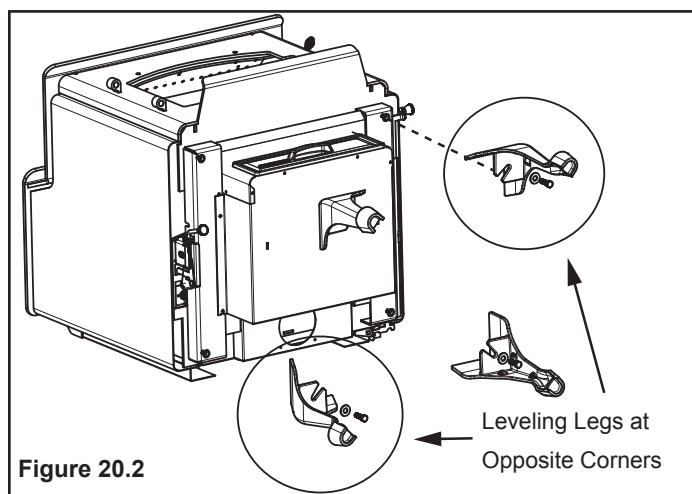

Figure 20.2
- Install legs onto mounting brackets making sure the legs are up against the bracket and secure with bolts and washers using a 3/8 open end wrench (**Figure 20.2**).
- Install leveling bolts into 2 legs; these leveling legs should be in opposite corners (**Figure 20.2**).